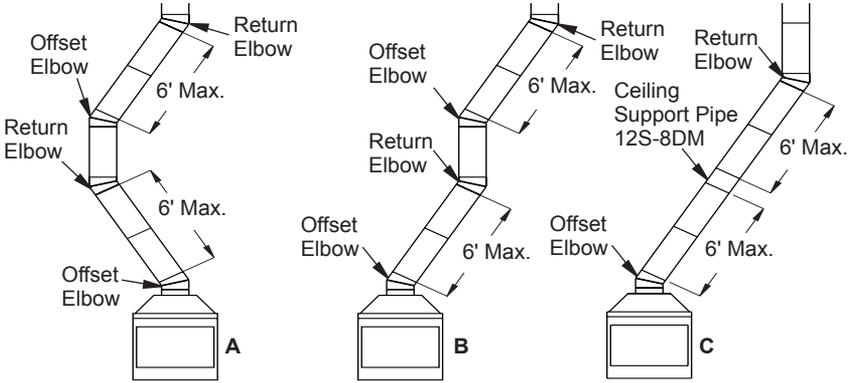

Figure 16 - Typical Offset Terminations (For Systems with 2 Elbow Sets, Maximum Height is 20')
Continue to assemble chimney sections as outlined above, making sure that both inner and outer pipe sections are locked together. When installing double wall snap-lock chimney together, it is important to assure joint between chimney sections is locked. Check by pulling chimney upward after locking. Chimney will not come apart if properly locked. It is not necessary to add screws to keep chimney together (exception, see Figure 16, page 11).
- All pipe connections between offset and return must be secured with two screws on outer pipe only (see Figure 16). Do not penetrate inner stainless.